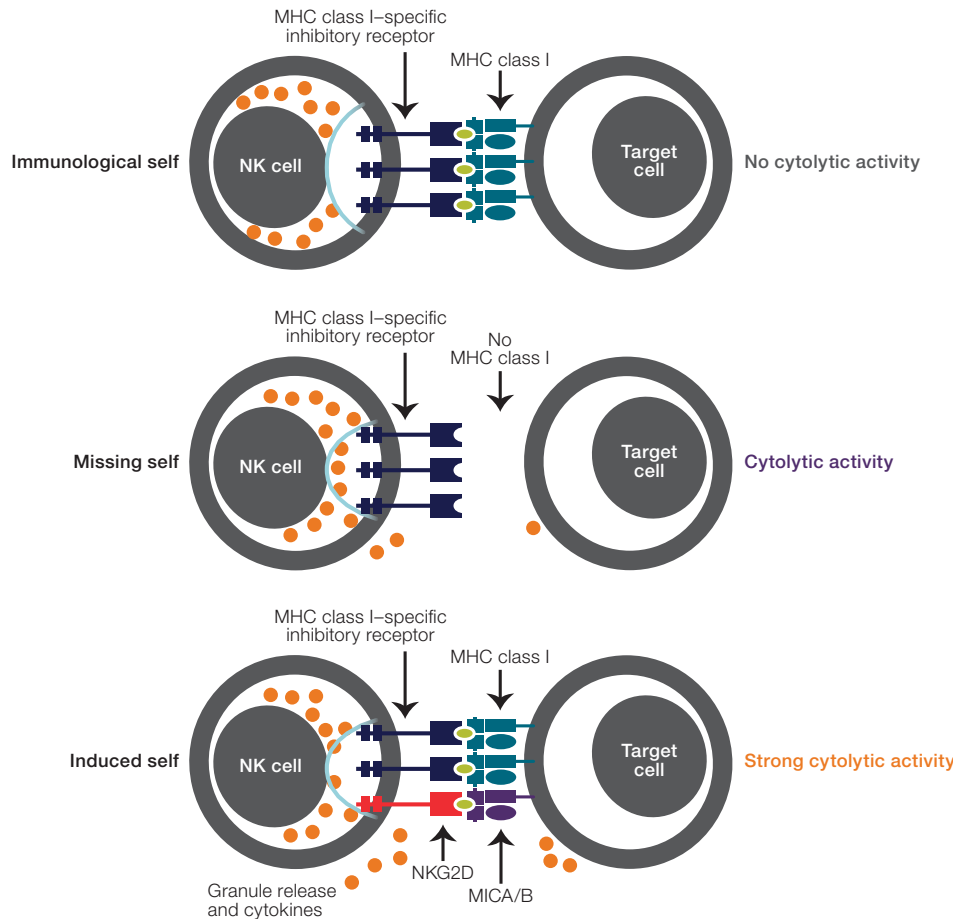

Figure 17. NK cells recognize the presence or absence of specific cell markers and react accordingly.
This application note presents a panel specifically designed to study natural killer (NK) cells. NK cells are a group of immune cells responsible for identifying and eliminating infected or cancerous cells through the recognition of specific markers or their absence (Figure 17). This study aims to investigate various markers related to NK cell activation, inhibition and maturation.